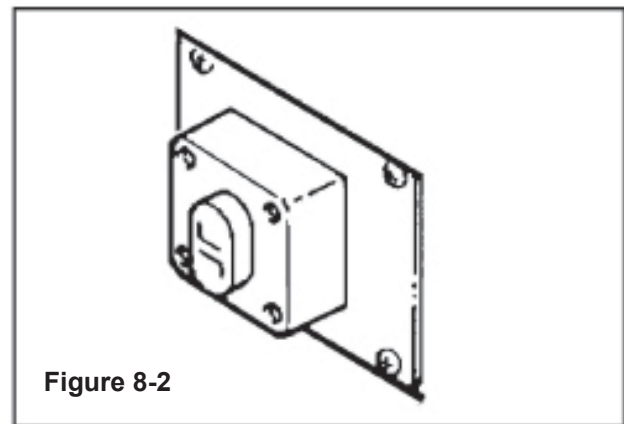

Figure 8-2
- The main switch start switch "ON" (I) (Figure 8-2)